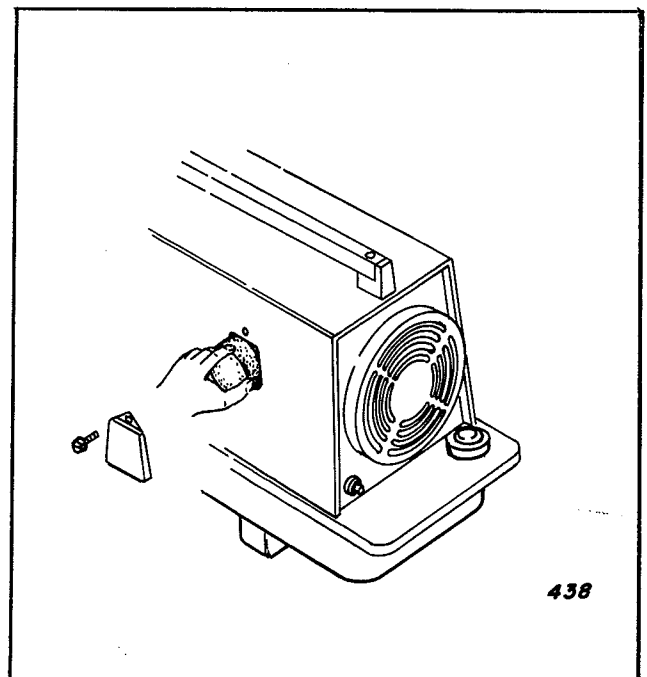

Figure 5. Removing Intake Air Filter
a. If the heater is equipped with an intake air filter, check and clean the intake air filter often. It needs cleaning if you can see a film of dust on the filter element. To check or clean, remove the screw which attaches the filter cover to the heater housing. See Figure 5.